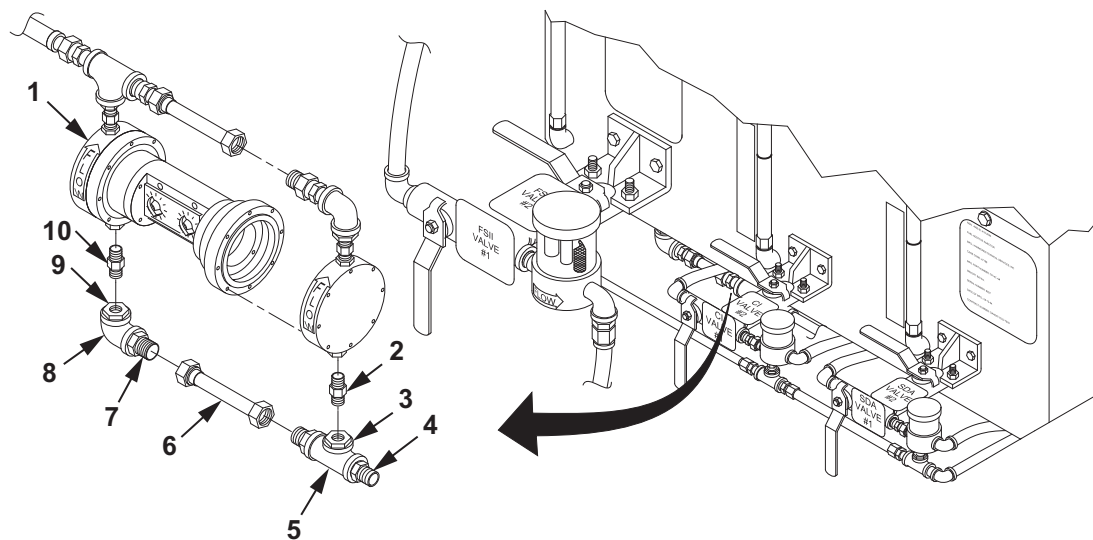

Figure 3. FSII Pump Suction Check Valves Removal.
1. Apply teflon tape to the threads of new suction check valve (Figure 3, Item 10).
2. Install suction check valve (Figure 3, Item 10) on reducer bushing (Figure 3, Item 9). Tighten suction check valve (Figure 3, Item 10).
3. Install suction check valve (Figure 3, Item 10), reducer bushing (Figure 3, Item 9), 90° elbow (Figure 3, Item 8) and tube adapter (Figure 3, Item 7) as an assembly on FSII pump (Figure 3, Item 1). Tighten suction check valve (Figure 3, Item 10).
4. Connect suction tube (Figure 3, Item 6) on tube adapter (Figure 3, Item 7). Tighten suction tube (Figure 3, Item 6).
5. Apply teflon tape to the threads of new suction check valve (Figure 3, Item 2).
6. Install suction check valve (Figure 3, Item 2) on reducer bushing (Figure 3, Item 3). Tighten suction check valve (Figure 3, Item 2).
7. Install suction check valve (Figure 3, Item 2), reducer bushing (Figure 3, Item 3), tee assembly (Figure 3, Item 5) and tube adapter (Figure 3, Item 4) as an assembly on FSII pump (Figure 3, Item 1). Tighten suction check valve (Figure 3, Item 2).